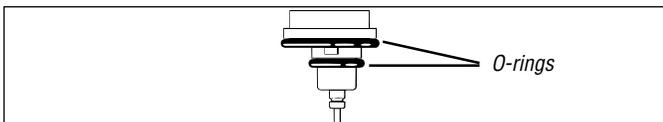

Figure 16
1.3.15 Install the O-ring(30) over the positioning tabs and flush against the shoulder of the underside. Install the O-ring(29) over the stem of the retainer so that it seats flush against the base (see Fig. 16).